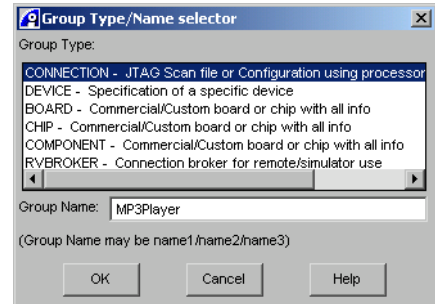

Figure 13-16 Creating a new connection
5. Use the Group Type/Name selector dialog box, shown in Figure 13-16, to name the new connection. For this example, enter MP3Player.